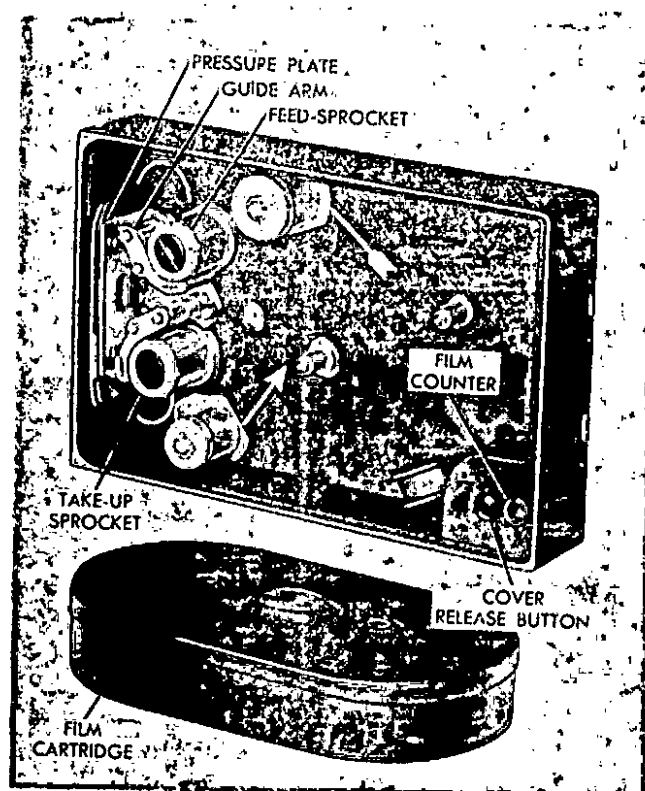

Figure 1-9. Film Magazine with Cover Removed
- a. Remove the magazine cover by depressing the cover release button (figure 1-9) and sliding the cover from the magazine body.